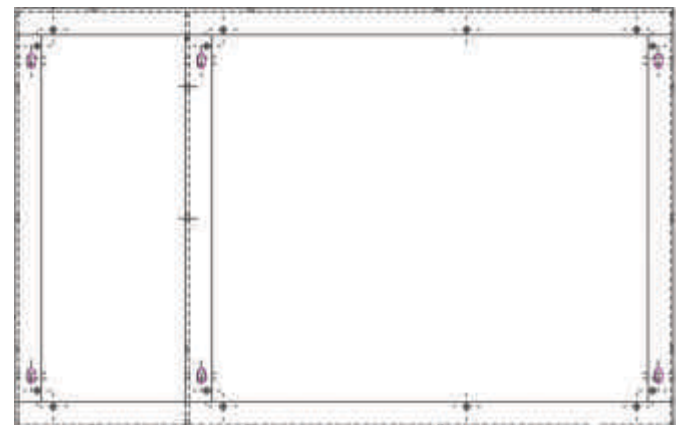

Figure16 - ISMC Base Frame
1. For access to the horizontal busbars, remove top plates and hoods (if provided) by removing all the bolts provided on the top Figure 16.